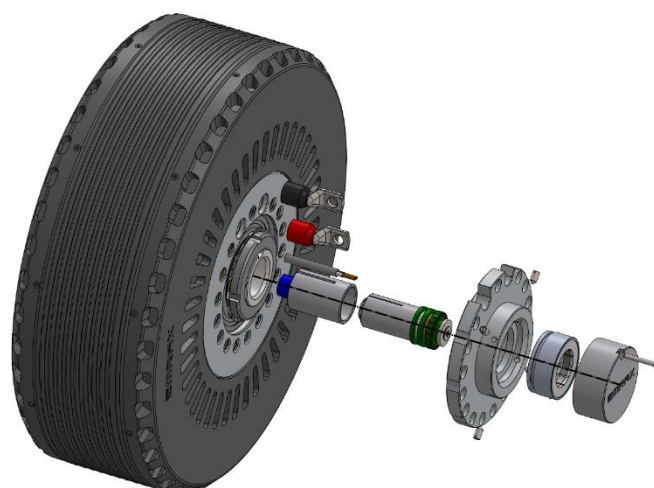

Figure 6: Resolver assembly
3. Insert the rotor assembly into the backside of the motor, inside the motor shaft (as shown on Figure 6). Before inserting the part use threadlocker glue on the faces, where the parts are mated.